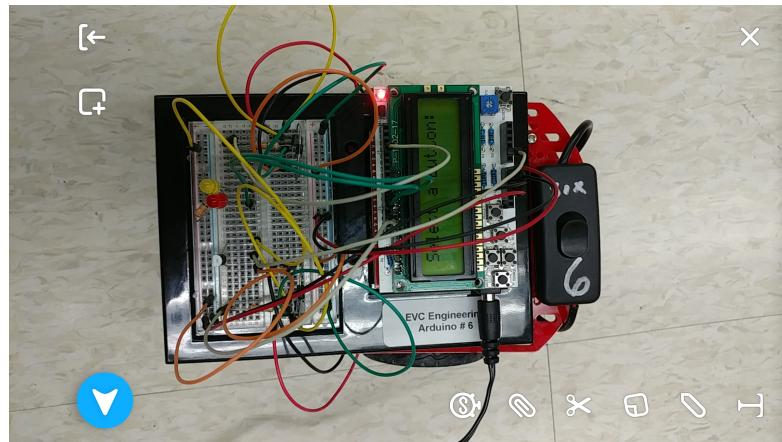

Figure 6. Circuits for two motors
3. Repeat the steps to run the 2nd motors. (Full setup for both motors shown in *figure 6* below)